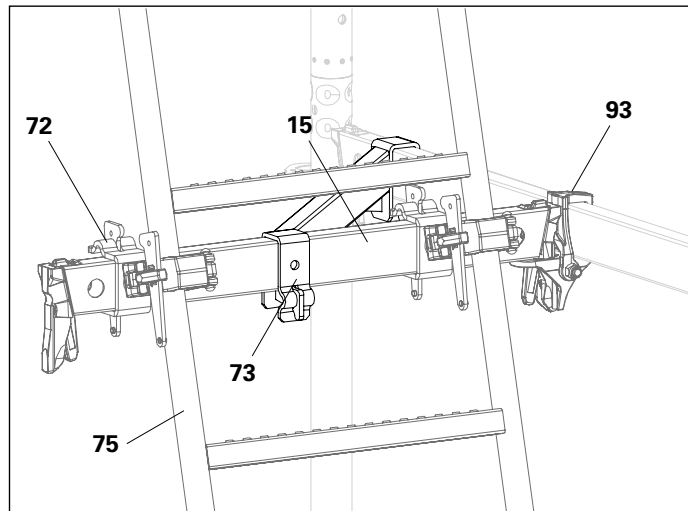

Fig. A9.07
1. Attach the Ledger to Ledger Coupler UHA-2 (93) and the ledger (15).
2. Install Ladder Connector UAM-W (72) or UAM-S on the ledger.
3. Fit the Ladder Connector Diagonal UAD (73) to both ledgers for bracing and hammer the wedges in tight.
5. Close the ladder connectors and tighten the screws or hammer the wedges in tight. (Fig. A9.07)